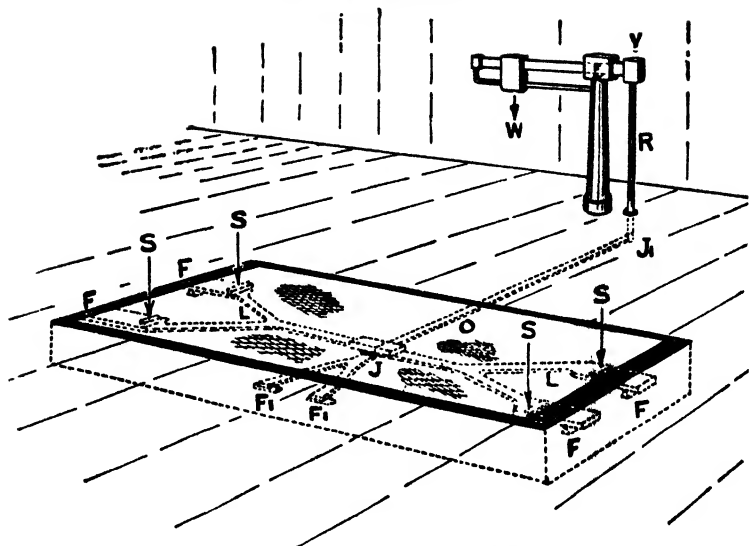

FIG. 85.—The principle of the weigh-bridge.
If you wanted to weigh a railway truck full of coal, it would clearly be very inconvenient to run it on to one scale of a very high balance and put about 250 hundred-weights on the other side. So, we use a lever or system of levers so arranged that a quite small weight at one end lifts a very large weight at the other end. Fig. 85 gives an idea of the principle of a weighbridge. The platform (shown as transparent) is supported on two big levers (L), linked together in the centre (J), and having their fulcrums (F) supported by the masonry of the pit over which the platform stands. Since the four places (S) where the platform rests on the levers are only about a twentieth of the way from the fulcrum, a weight of five tons on the platform gives a downward push of only about five cwt. on the link. The link at J pushes another lever (O), and